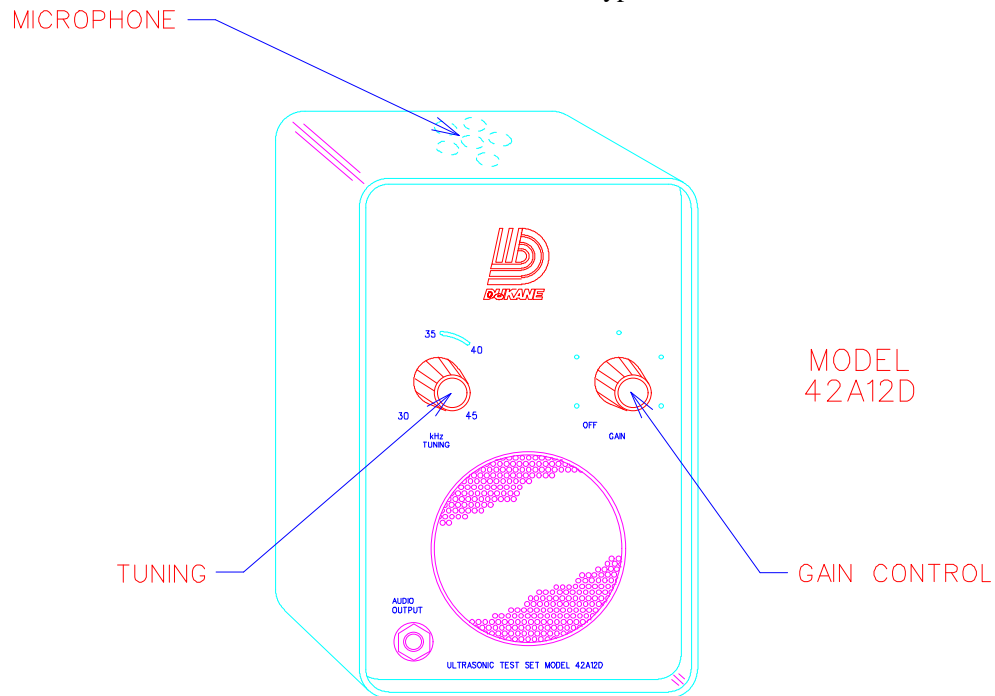

Figure 1.1. Ultrasonic Test Set Model 42A12D.
1.1.1. GENERAL. This manual contains the description, operation and maintenance of the 42A12D Ultrasonic Test Set manufactured by Dukane Corporation, Seacom Division, 2900 Dukane Drive, St. Charles, Illinois 60174. See Figure 1.1.